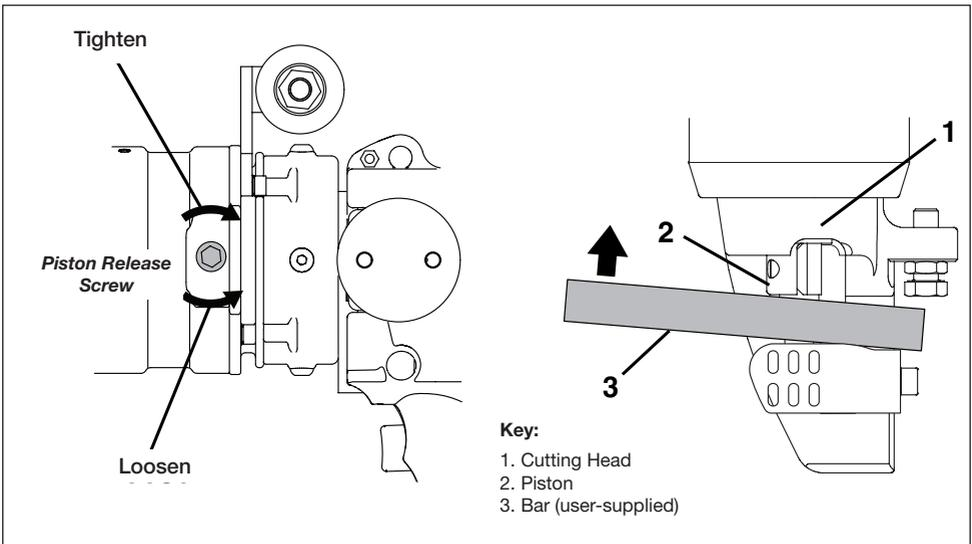

Figure 17, Piston Manual Retract Procedure
Refer to the following steps. See Figure 17:
4. Using a rigid piece of steel bar, manually push the piston inside the cutter until it is returned to the home position. See Figure 17, item 3. This should dislodge any dirt or other material that had prevented the piston from returning during normal operation.
8. Clean the exposed portion of the piston. Remove any debris, chips or dirt from this area. See Figure 17, item 2.